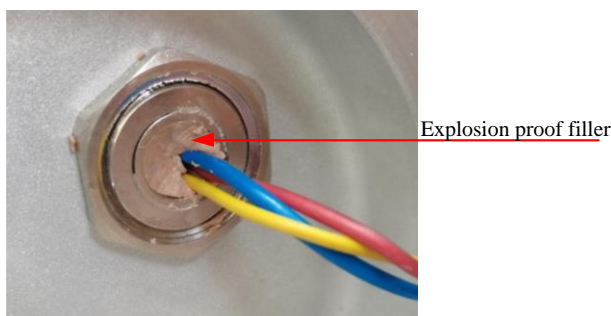

Figure 14
- (7) Please select the filling that meets the relevant standards of the local country, mix it evenly to the filling required for on-site installation, and then add the filler to the gap of the cable core wire, that is, around the core wire, fill the inner diameter of part 4, and also add an appropriate amount of filler to the cavity of part 5. Tighten the locking nut. Before filling with filler, the cable should be wiped clean, and after filling with filler, excess filler on the parts should be wiped clean. As shown in the following Figure 14: